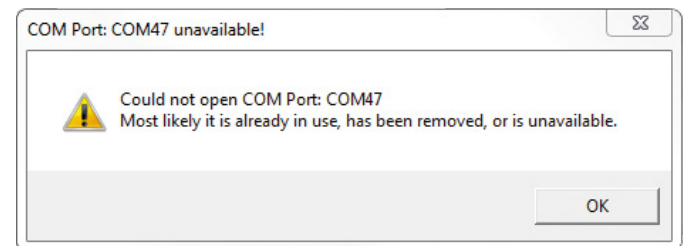
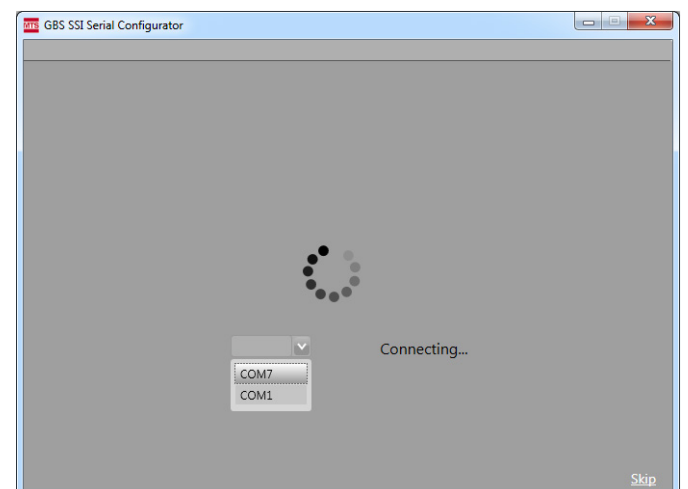
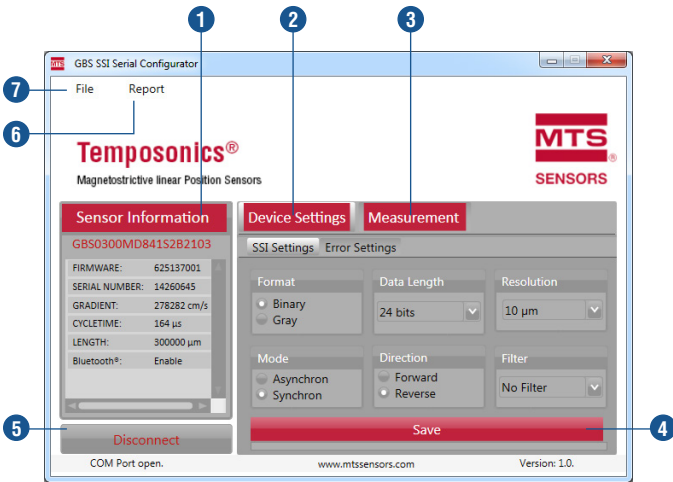

Fig. 27: Error message COM Port is not available
Fig. 28: Select COM Port
Fig. 29: User interface GB Serial Configurator
After starting the program GBS SSI Serial Configurator the software connects to the last selected COM Port and the user interface opens (Fig. 29). If the COM Port is not available an error message appears (Fig. 27).
Select the right COM Port from the list (example see Fig. 28). The application will automatically restart and the user interface opens (Fig. 29).
- 7 The **File** menu allows the following settings (see also Fig. 29):
SSI Settings (Fig. 29)